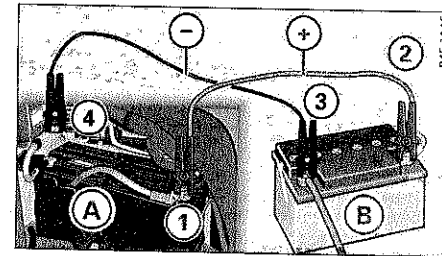

Fig. 297 Jump starting with the battery of another vehicle: A – discharged vehicle battery, B – booster battery
1. Connect one end to the positive terminal ⇒ fig. 297 ① of your battery **(A)**.
2. Connect the other end to the positive terminal ② of the booster battery **(B)**.
- Please note that the procedure for connecting a jumper cable as described above applies specifically to the case of your vehicle being jump started. When you are giving a jump start to another vehicle, do *not* connect the negative (-) cable to the negative (-) terminal on the discharged battery  ⇒ page 365, fig. 297. Instead, securely connect the negative (-) cable to either a solid metal component that is firmly bolted to the engine block or to the engine block itself. If the battery that is being charged does not vent to the outside, escaping battery gas could ignite and explode!
terminal of the discharged battery (4) ⇒ page 365, fig. 297. Instead,